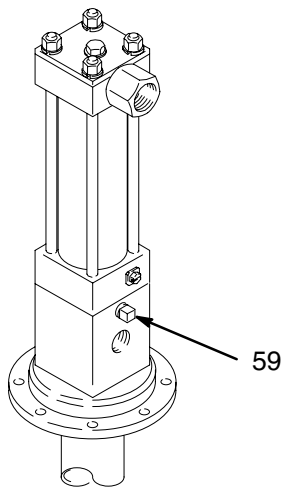

Fig. 2
- **Drain Line.** Remove the plug (59) from the pump adapter, and install a 1/8–27 npt(f) tube fitting and weep tube (B), ending in a waste container. Monitor the weepage of hydraulic fluid. If it seems excessive or increases suddenly, the reciprocator/pump seals may need to be changed. See Fig. 2.